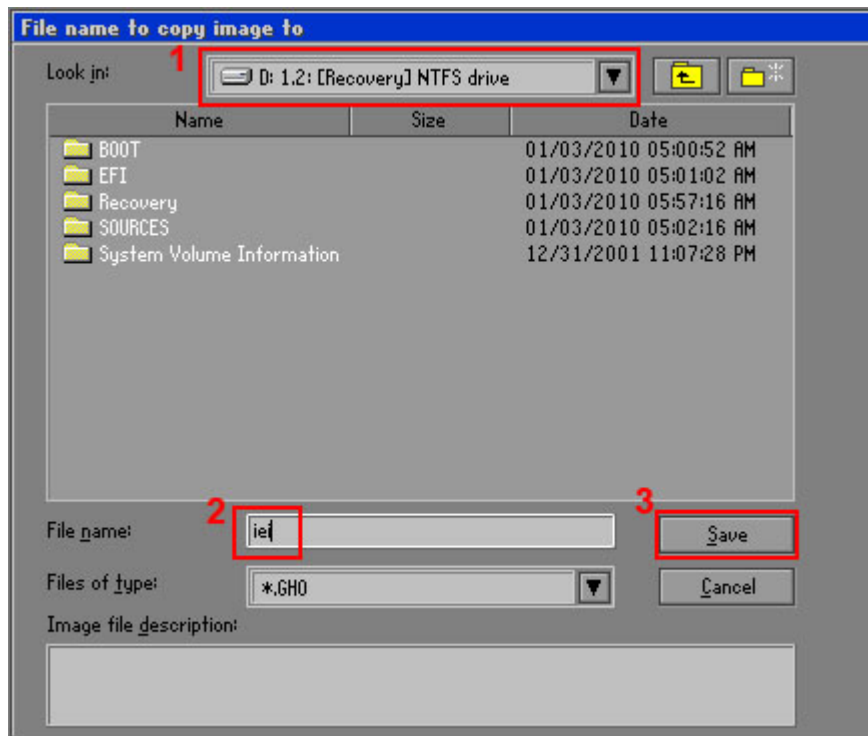

Figure A-16: File Name to Copy Image to
Step 7: Select 1.2: **[Recovery] NTFS drive** and enter a file name called **iei** (**Figure A-16**). Click **Save**. The factory default image will then be saved in the selected recovery drive and named **IEI.GHO**.